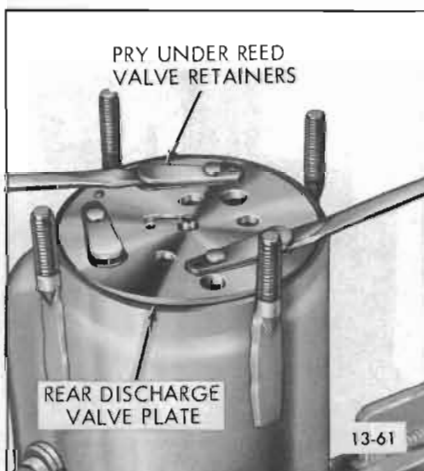

Figure 13-61—Removing Rear Discharge Valve Plate
9. Carefully pry out rear discharge valve plate and rear suction valve reed disc with screwdrivers (see Figures 13-61 and 13-62). Check both pieces and replace as necessary.